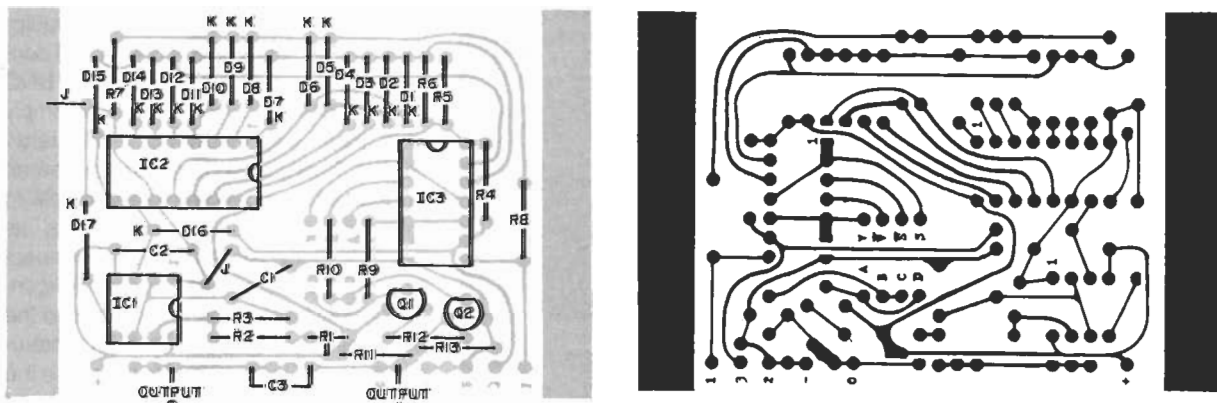

Fig 2. Actual-size foil pattern and component installation for the generator. The two large end bars are used for mounting, and are not required for operation.
**Construction.** The circuit can be assembled using any type of wiring technique; the foil pattern shown in Fig. 2 may be used. This illustration also shows component installation.